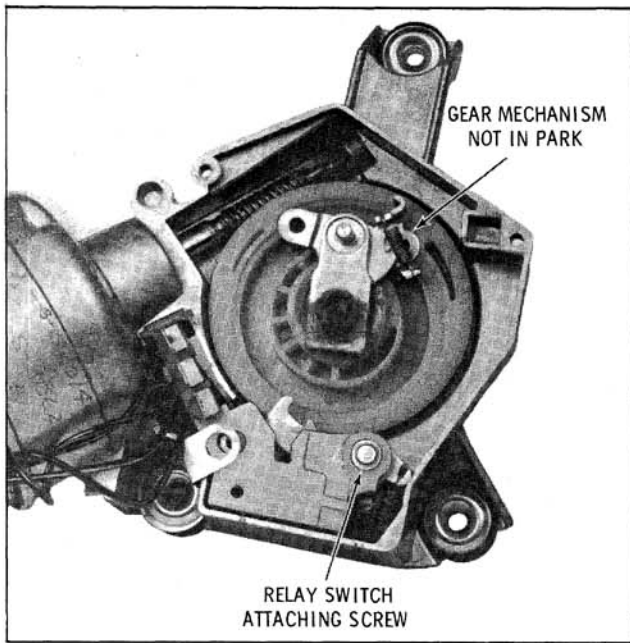
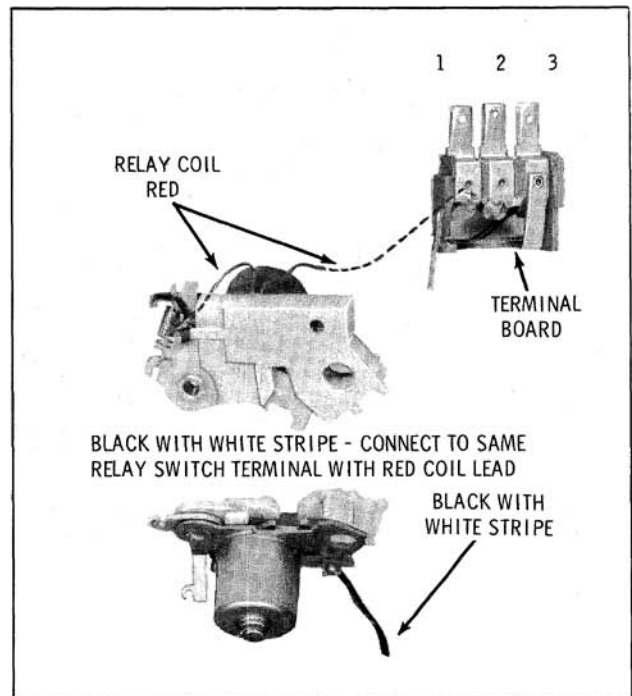

Fig. 13-184 Gear and Relay Switch
Fig. 13-185 Terminal Board
If wiper gear mechanism is not in park position (drive pawl away from latch arm Fig. 13-184), proceed to Step 3.
3. Remove relay switch attaching screw (Fig. 13-184) and carefully lift the relay switch assembly out of the gear box. Unsolder leads from switch terminals as required. Refer to Fig. 13-185 when resoldering leads.
1. Resolder red coil lead to wiper terminal board as required. (Fig. 13-185)
3. Resolder leads to relay switch assembly as required. (Fig. 13-185)
5. Install relay switch mounting screw. (Fig. 13-184)